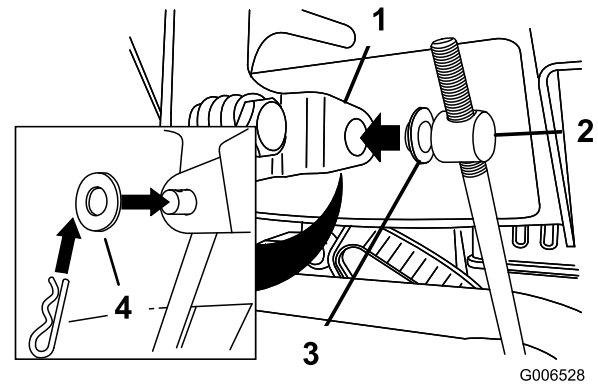

Figure 6
3. Remove the hairpin cotter and the outer washer from the trunnion on the upper end of the speed control rod (Figure 6).
Note: To make installation easier, leave the inner washer on the trunnion (Figure 6).
6. Lift up on the speed control rod and insert the trunnion into the hole in the speed selector lever (Figure 6).
- B. Disconnect the trunnion from the speed selector lever (Figure 6).
- C. Turn the trunnion downward (clockwise) on the speed control rod (Figure 6).
- D. Connect the trunnion to the speed selector lever (Figure 6).
- C. Turn the trunnion upward (counterclockwise) on the speed control rod (Figure 6).